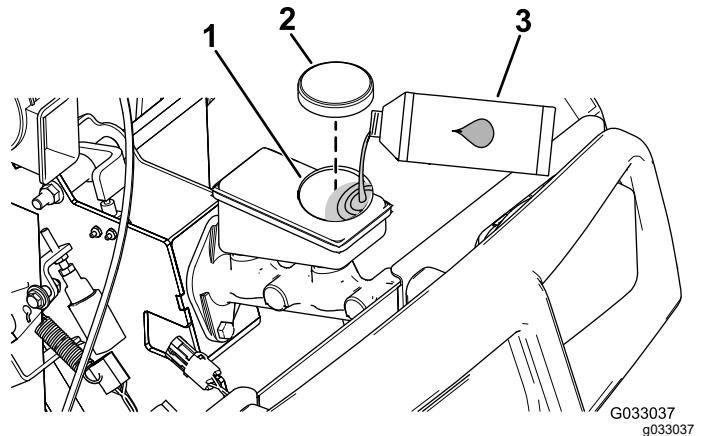

Figure 51
4. Raise the hood to access to the master brake cylinder and reservoir (Figure 51).
- A. Clean the area around the reservoir cap and remove the cap (Figure 51).
- C. Install the reservoir cap (Figure 51).